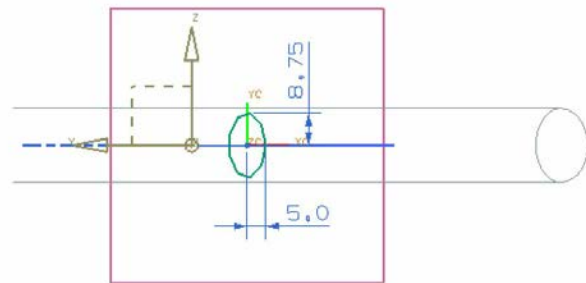

Figure 10-115 The section curve drawn for creating the sweep surface
3. Draw the sketch by selecting the newly created plane as the sketching plane. Note that you may need to specify horizontal or vertical reference for the sketch in the **Create Sketch** dialog box to invoke the sketching environment. Next, draw the ellipse (section curve), refer to Figure 10-115, and then exit the sketching environment.